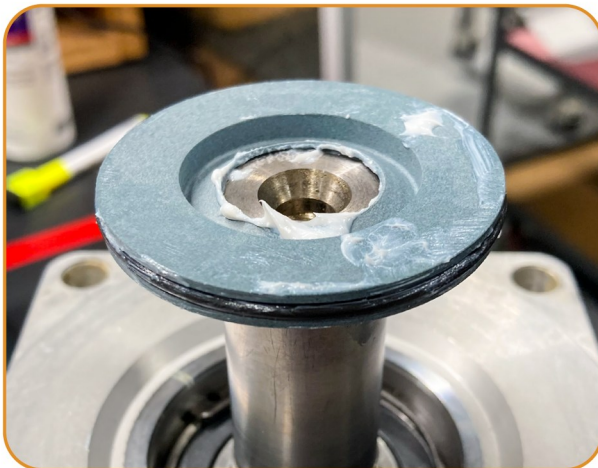

Figure 3-6: Shaft seal over the shaft
11. Insert the shaft seal over the shaft so that the ID lip curves up. (Figure 3-6)